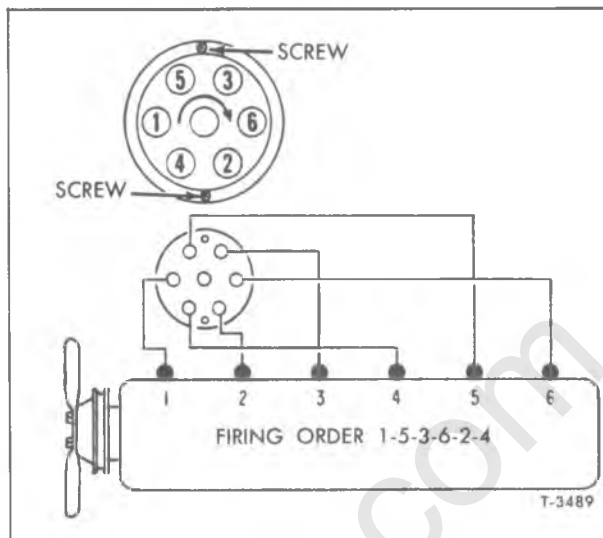

Figure 5—Cylinder Numbering and Spark Plug Wire Locations on In-Line Engine
3. Inspect distributor cap for burned wire sockets, cracks, and for erosion at terminals inside cap. Replace the distributor cap if it is not in good condition. When installing spark plug wires, refer to appropriate view in figure 5 or 6, showing cylinder numbering, firing order and distributor cap wire socket numbering on each type of engine.